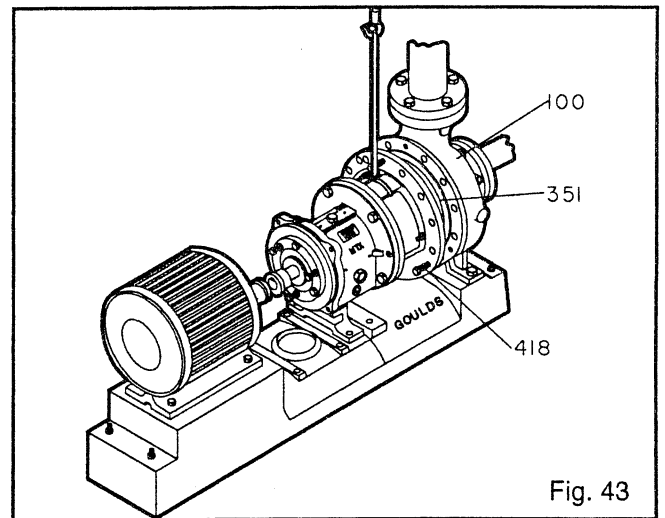

Fig. 43
- Remove back pull-out assembly from casing (100). Tighten jack screws (418) evenly to remove back pull-out assembly (Fig. 43).